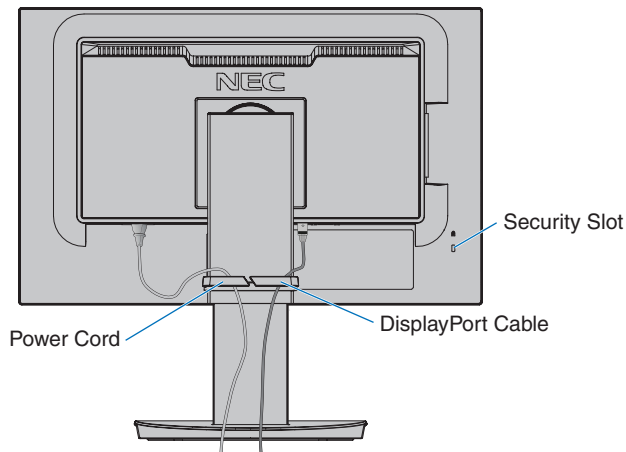
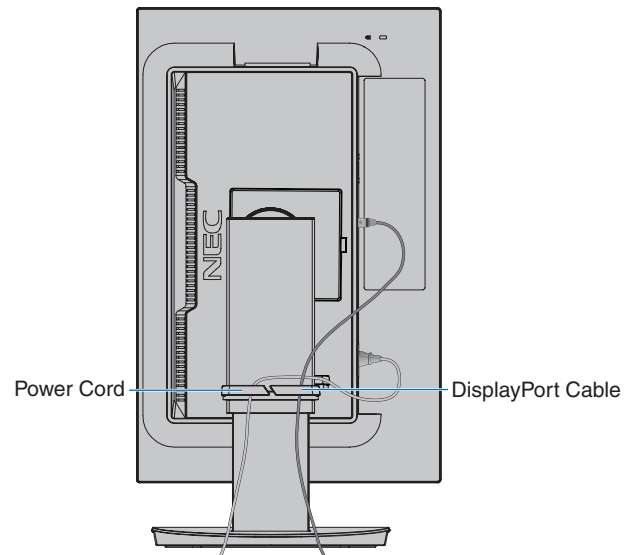

Figure 5
Figure 6
5. Please check that you can still rotate, raise and lower the monitor screen after you have installed the cables (**Figure 5** and **Figure 6**).